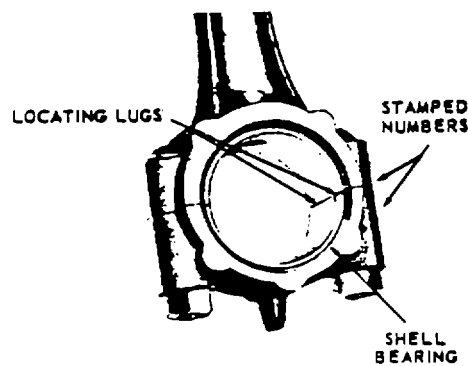

Figure 6-28. Rod Shell Bearing Halves
- (8) Install connecting rod sheel bearing halves into connecting rod and connecting rod cap. See Figure 6-28.